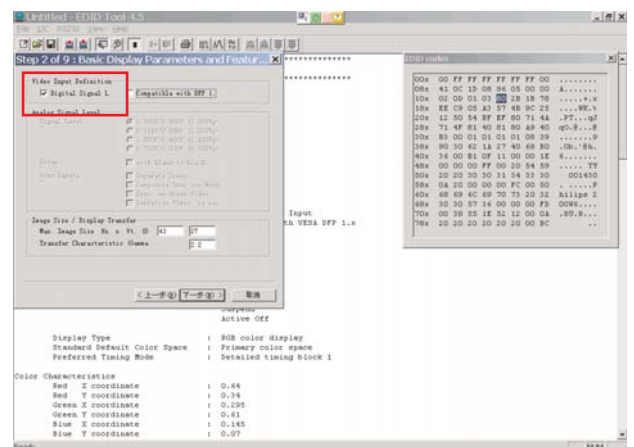

Fig. 22
1. Click Next, bring up Fig. 22. Then select Digital Signal as below